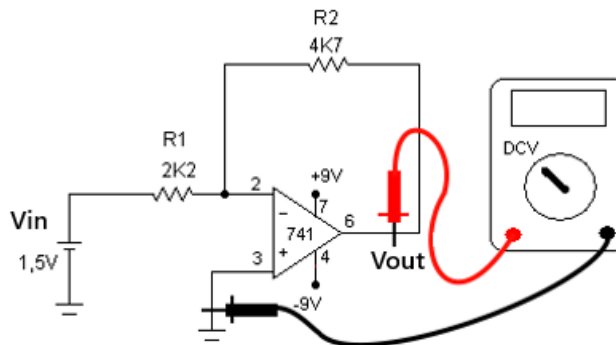
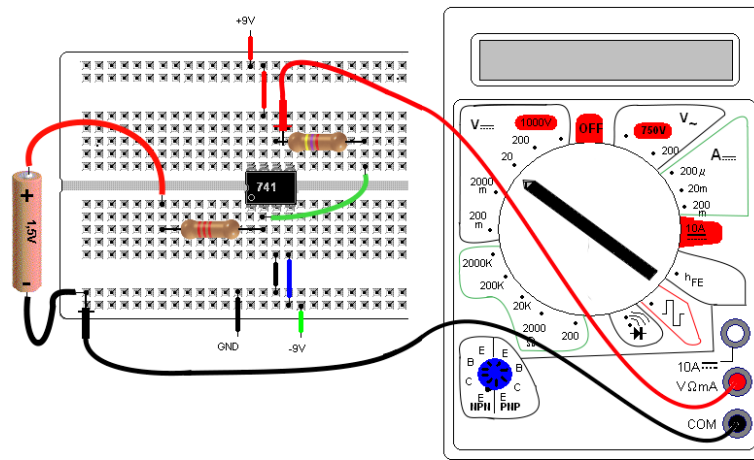
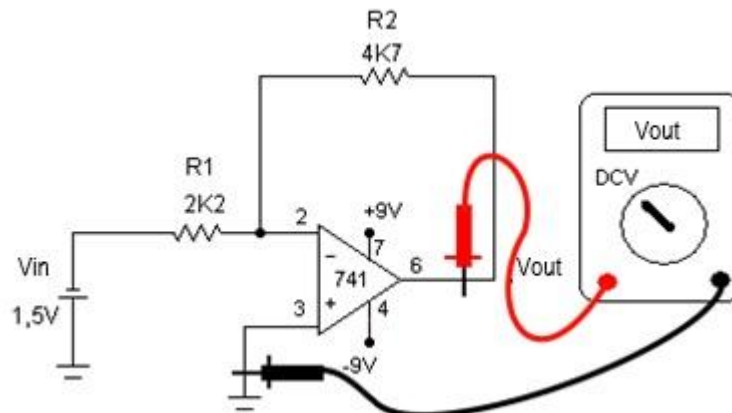
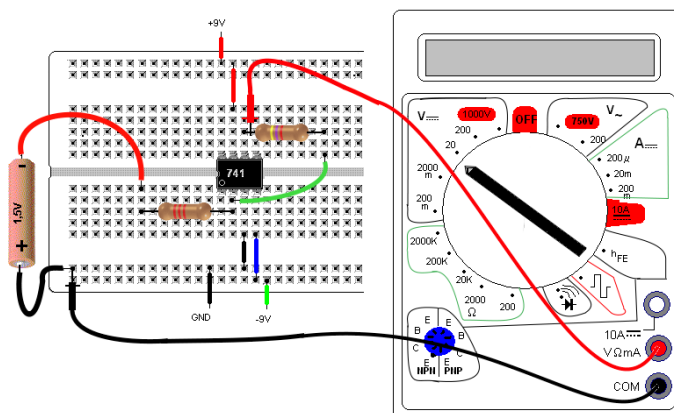

Figure 2 – Experimental circuit – inverting amplifier with Vin=1.5 V
Figure 3 – DC inverter amplifier– layout on breadboard – $V_{in}=1.5\text{ V}$
Figure 4 – Experimental circuit – inverting amplifier with $V_{in}= - 3\text{ V}$
Figure 5 – Experimental circuit with inverter – layout on breadboard – $V_{in} = -1.5\text{ V}$
- 1) For the circuit in Figure 2, calculate the gain (Avf) and then the output voltage. Write these values down as Avf (calc.) and Vout(calc.).
- 2) Assemble the circuit in Figure 2 on the breadboard according to the suggestion in Figure 3. Measure the exact value of the battery voltage and write it down as Vin (effective). Measure the output voltage and write it down.
4) Invert the input voltage of the circuit in Figure 2, resulting circuit in Figure 4. Calculate the output voltage and record it as $V_{out}(\text{calc.})$.
- 5) Assemble the circuit in Figure 4 on the breadboard according to the suggestion in Figure 5. Measure the voltage at the output.
- 6) In the circuit in Figure 5, replace the 4k7 resistor with a 22 K resistor and measure the voltage at the output and write it down.